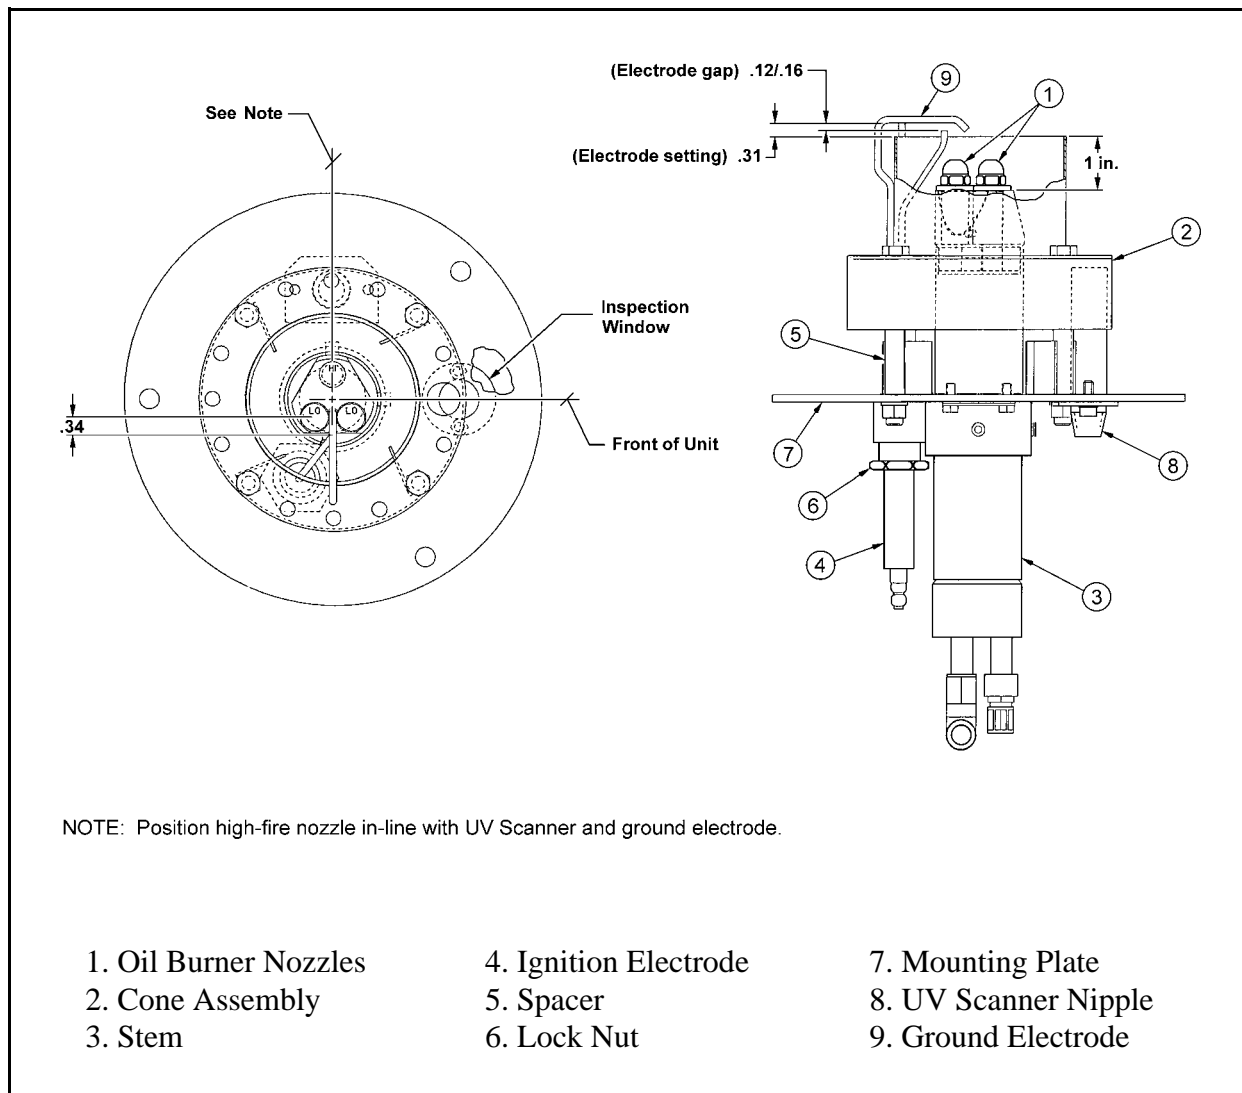

Figure 7-12 Oil Burner Manifold
(See Figure 7-12.)
- a. Adjust the Ignition Electrode (4) to conform to dimensions given in Figure 7-12. The gap must be positioned as closely as possible to the immediate edge of the Nozzle spray.